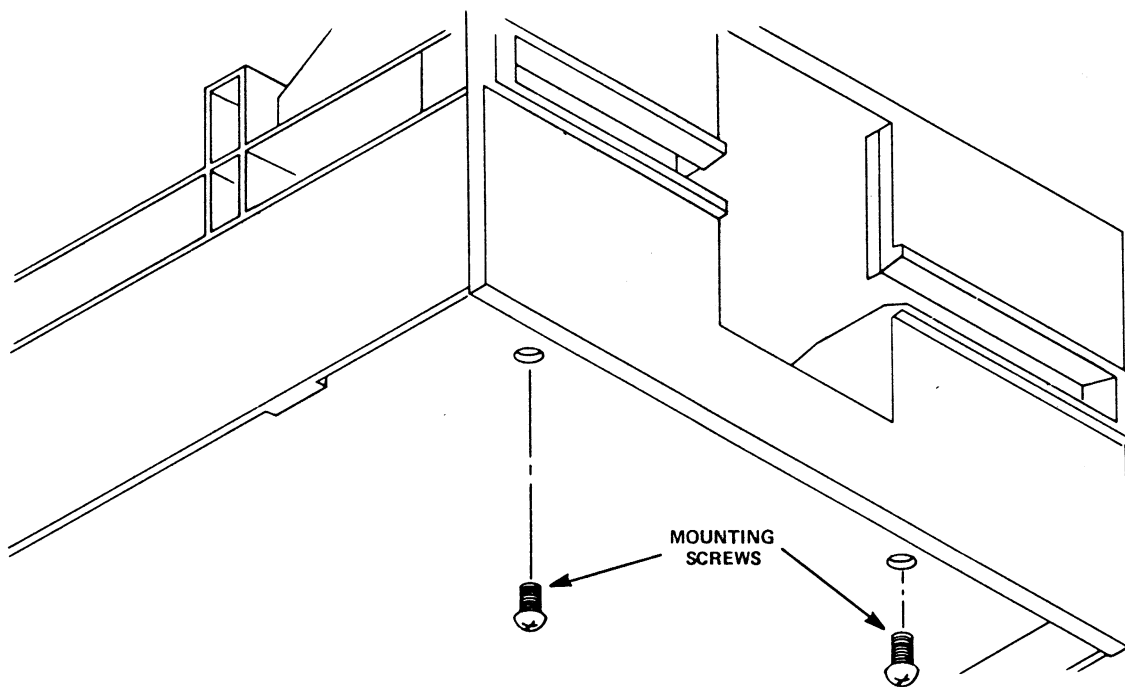

Figure 5-13
5.7.5 With a Phillips screwdriver, remove the two (2) mounting screws that attach the front panel to the chassis (see Figure 5-13).
- 5.7.8 After unspending the disk drive using a Phillips screwdriver, reinstall the two (2) mounting screws that attach the front panel to the chassis (see Figure 5-13).
5.8.3 With a Phillips screwdriver, remove the two (2) mounting screws located near the front of the disk drive, underneath the chassis, that attach the front panel to the chassis (see Figure 5-13).